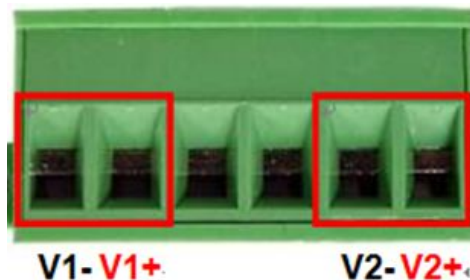

Figure 2.12 - Power Terminal Block
1. Insert the positive and negative wires into the PWR1 (V1+, V1-) and PWR2 (V2+, V2-) contacts on the terminal block connector as shown below in *Figure 2.12*.